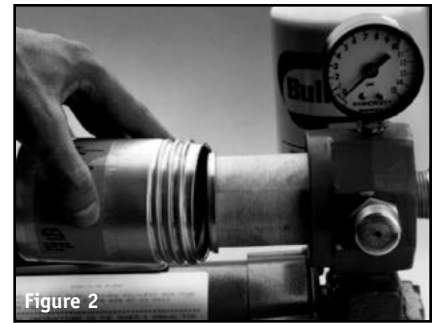

Figure 2
- a. Unscrew the pump's outlet filter jar and check to be sure the outlet filter cartridge is seated firmly into the outlet filter body (see Figure 2).